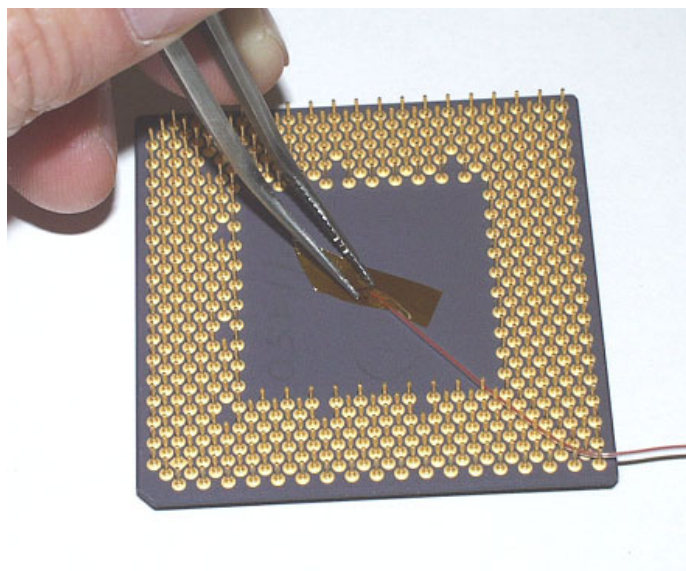

Figure 12. Thermocouple Attached with Kapton Tape
7. Attach the thermocouple to the package with a small piece of Kapton tape, as shown in Figure 12 on page 23.
Figure 12 shows the thermocouple attached to the processor die with Kapton tape.